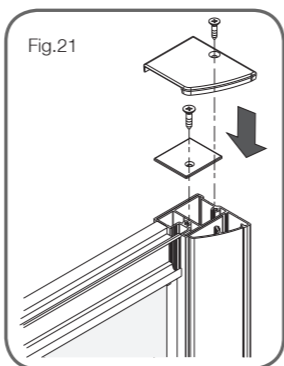

Fig.21
5. The next step is to apply the cover caps on the top of the wall profiles and panel profiles. (See Fig.21.).